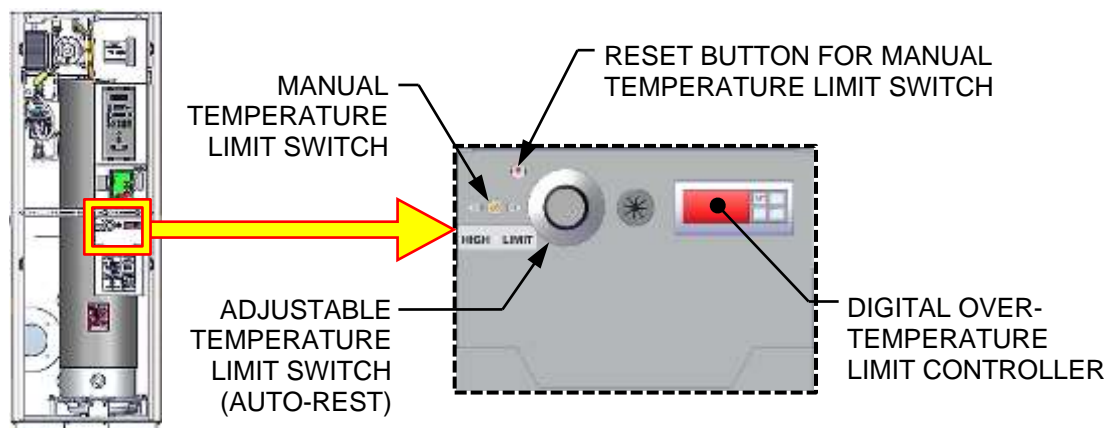
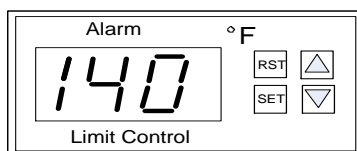

Figure 4-11a: BMK750 & 1000 Over-Temperature Limit Switch Location
Figure 4-12: Digital Over-Temperature Alarm Switch Front Panel
The unit contains three (3) types of over-temperature limit controls. These controls consist of a **Manual Reset** button, a rotary adjustable **Temperature Limit** switch and a digital **Over-Temperature Alarm** button. These controls are mounted on a plate as shown in Figure 4-11a – 4-11c. They can be accessed by opening the front panel door of the unit.
The **Manual Reset** button is not adjustable and is permanently fixed at 210°F (98.9°C). This button will shut down and lock out the boiler if the water temperature exceeds 210°F (98.9°C). Following an over-temperature condition, it must be manually reset by pressing the **Manual Reset** button shown in Figure 4-11a – 4-11c before the boiler can be restarted.
The digital **Over-Temperature Alarm** switch shown in Figure 4-11a – 4-11c and Figure 4-12 is preset at the factory to 210°F (98.9°C) and should not be changed. If an over-temperature condition is detected, this switch automatically shuts down the boiler and sounds an audible alarm. If desired, the **Over-Temperature Alarm** can be checked or adjusted using the procedure in section 4.7.1.
The **Over-Temperature Alarm** switch settings can be checked or adjusted using the controls and display on the front panel of the switch illustrated and described in Figure 4-12 and Table 4-9.